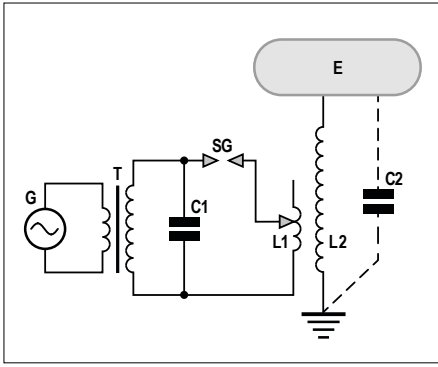

Figure 1. Basic circuit of the original Tesla coil.
The special transformer at the heart of the Tesla coil (L1 and L2 in the basic circuit of **Figure 1**) is called a resonant or oscillation transformer, which clearly operates in a different way to the normal transformers found in AC power supplies. A normal transformer has been designed to transfer energy from the primary winding to the secondary winding as efficiently as possible; an oscillation transformer also (temporarily) stores electrical energy. There is a capacitor in parallel with each winding, which effectively results in two tuned circuits. L1 consists of one or more turns of thick copper wire and it can be tuned; this coil is connected to capacitor C1 via a spark gap (SG). The secondary coil consists of a (very) large number of turns of thin copper wire, within the primary coil. Both coils are air-cored. There is no 'real' capacitor in parallel with the secondary, although there is a capacitance: capacitor C2, shown in dashes in the basic circuit, is the sum of the parasitic capacitances between the individual windings in the secondary and the capacitance between the end electrode (E) and Earth. Both circuits (L1-C1 and L2-C2) have been tuned to the same frequency.
The operation of the Tesla coil (shown in Figure 1 in its original configuration) can be explained (very briefly) as follows: